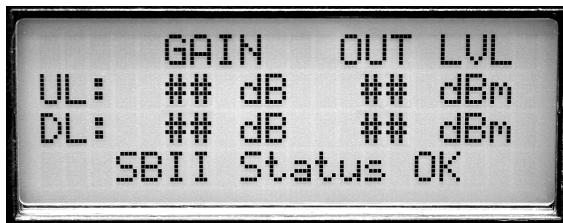

Figure 6: Normal Operational LCD Display.
- 5) The LCD display should appear similar to **Figure 6** after the self check is complete.
Once the boot-up sequence is completed (after several seconds) the LCD screen will switch to the main status display as shown in figure 6. This is the normal display for the signal booster. The system will return to this display from any other display if none of the menu interface buttons are pressed within 2 minutes. The exception is the OLC status display which does require a button press to exit. The main status display shows the uplink and downlink gain in dB as well as the uplink and downlink output level in dBm.